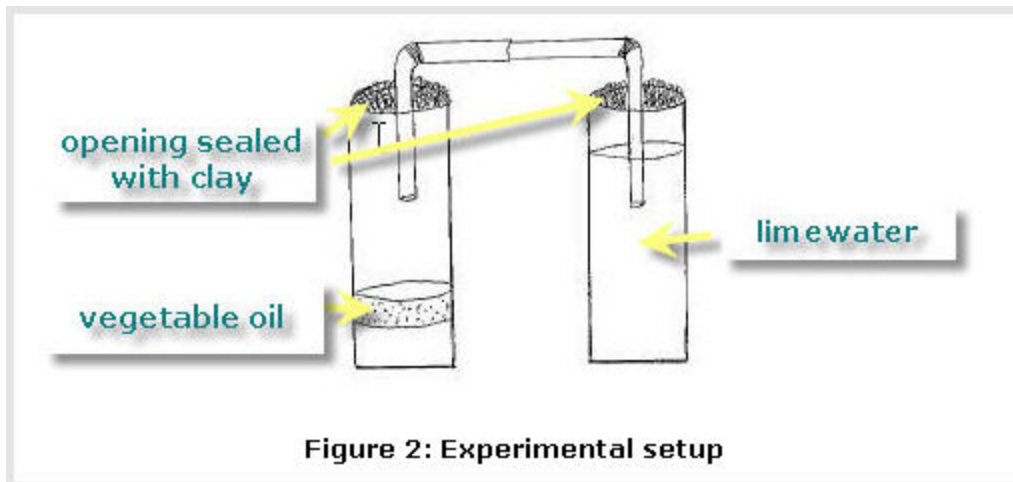

Figure 2: Experimental setup
6. Bend the ends of both straws at a 90-degree angle. Place the end of one straw in the mouth of the plastic/glass container you just prepared. Secure it in place with modeling clay or play dough (see Figure 2).
8. Insert the other end of the straw set up into the mouth of plastic/glass container of limewater. The mouth of the straw should be submerged under the limewater. Secure the straw in place with modeling clay or play dough (see Figure 2).